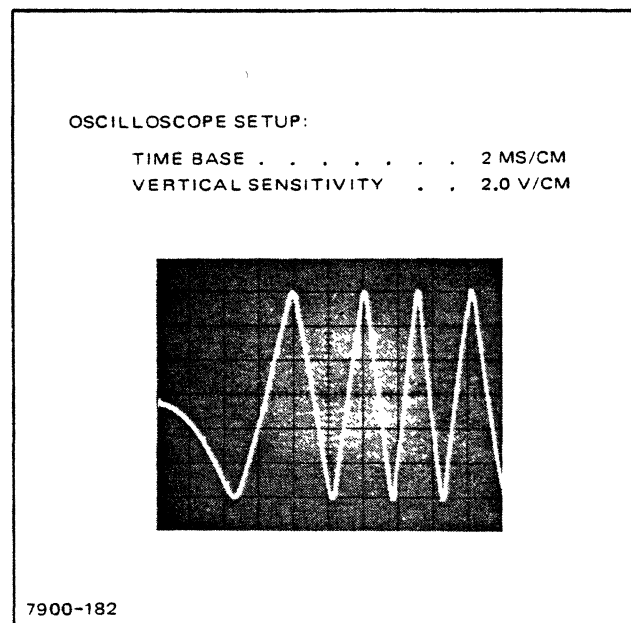

Figure 2. Encoder Alignment Waveform
1. Adjust the A GAIN ADJ variable resistor on encoder assembly A12 for $12 \pm 0.5V$ peak-to-peak output. (See Figure 2.)
2. Adjust the A BAL ADJ variable resistor on encoder assembly A12 for an equal swing (± 0.5 volts) above and below 0 volts. (See Figure 2.)